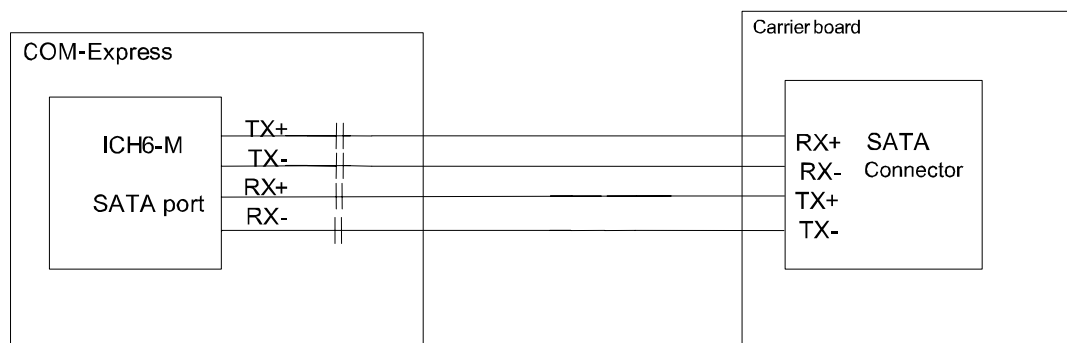
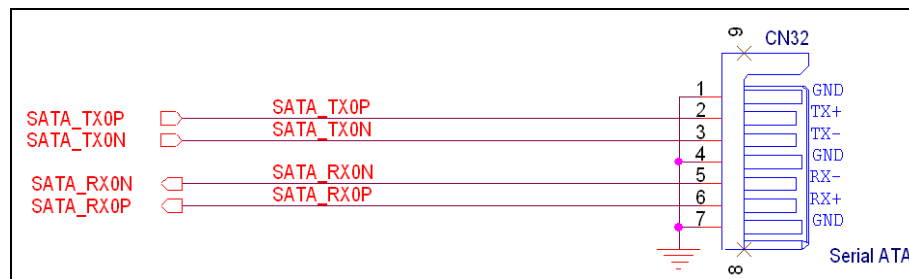

Figure 2-17 SATA interconnection example
Figure 2-18 SATA Schematic Reference
Both the TX and RX SATA differential pairs require AC coupling capacitors. Figure 5-51 shows the connection for COM-Express SATA signals. All AC coupling capacitors on the transmitter (TX) and receiver (RX) are placed on the COM-Express Module. Do not place the AC coupling capacitors on the carrier board. Figure 2-17 and Figure 2-18 show the connections.